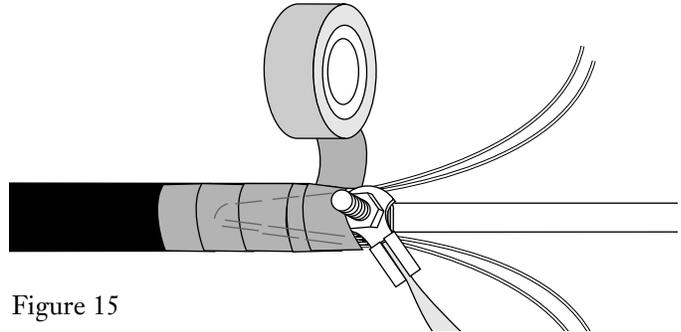

Figure 15
- Cover the grounding clamp and split portion of the sheath with vinyl tape (Figure 15).